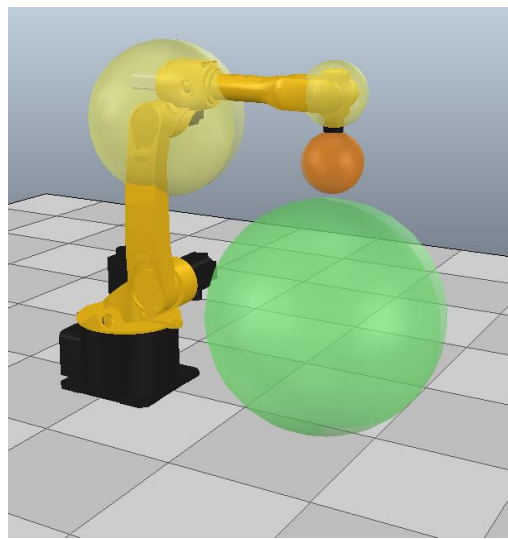

Figure 6-67 Contents of working condition in cylinder Safety Zone
Step2. After obtaining the center of ball and the radius of ball, you need to click <Applicate> button to write the calculated ball Safety Zone into the database, and then the setting of the ball Safety Zone will be completed. The contents of working condition after setting are shown in Figure 6-67.